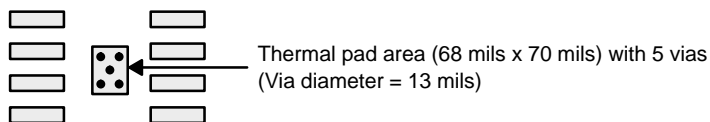

Figure 34. PowerPAD PCB Etch and Via Pattern
1. Prepare the PCB with a top side etch pattern as shown in Figure 34. There should be etch for the leads as well as etch for the thermal pad.